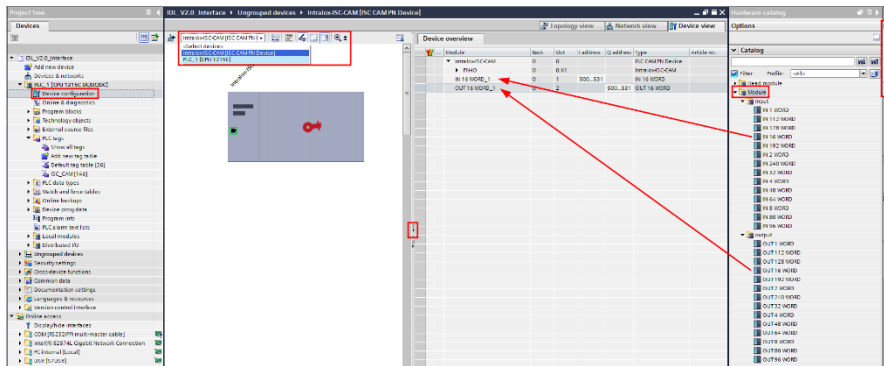

Figure 17: Configure Input and Output Size of ISC CAM Device
39. Select “Device configuration” in the project, Figure 17.
40. Choose ISC CAM from the drop-down menu in “Device view,” Figure 17.
41. Expand the window to the right of the device to view the “Device overview,” Figure 17.
42. Open the “Hardware catalog” to the right of the “Device overview,” Figure 17.
43. Open the “Module” in “Hardware catalog,” Figure 17.
44. Drag and drop “IN 16 WORD” into “Device overview” “Slot” 1, Figure 17.
45. Drag and drop “OUT 16 WORD” into “Device overview” “Slot” 2, Figure 17.